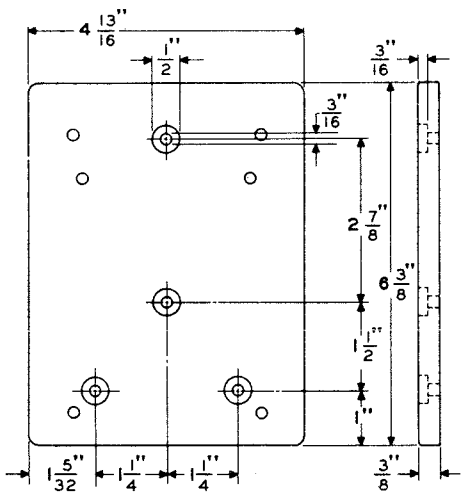

Fig. 1 – 171A Backboard
- (b) When required, the 171A wood backboard (Fig. 1) is used to attach the 592-type subscriber set.